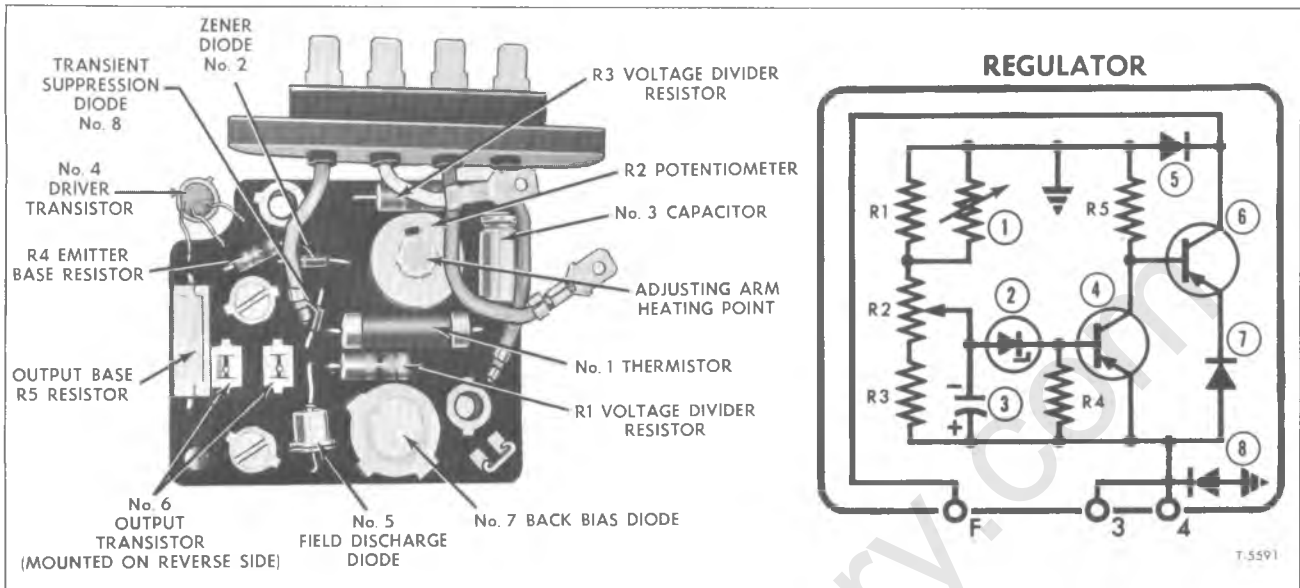

Figure 23—Component Parts of Panel Board Assembly
If both ohmmeter readings are zero, the capacitor is defective. Visually inspect for open soldered connections and broken leads. To assemble a new capacitor properly, note location of the "+" identifying mark in figure 23.
**NOTE:** When installing a new potentiometer, locate the adjusting lever in a vertical position (fig. 23), turn the potentiometer resistance adjustment to the middle position, then use a soldering iron to melt the lever into potentiometer.
1. Carefully apply soldering iron to lever of potentiometer at point shown in figure 23, then disconnect lever from opposite side of panel board while heat is being applied.